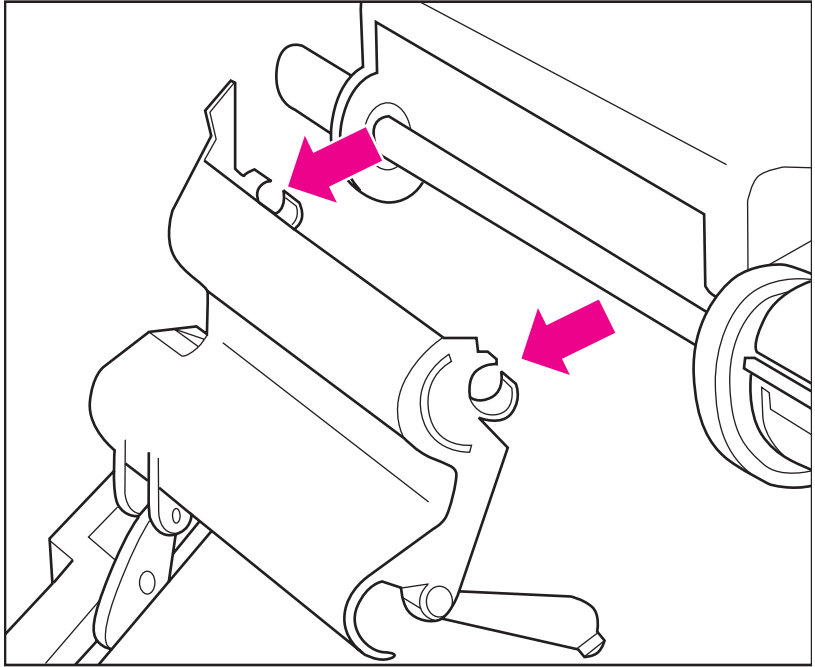

Figure 6-13 Detail of the Tray 1 Sensor Arm Cover
- 4 Firmly pull both sides of the Tray 1 Sensor Arm Cover toward you until it releases from the shaft. See Figure 6-13, “Detail of the Tray 1 Sensor Arm Cover,” on page 6-17.